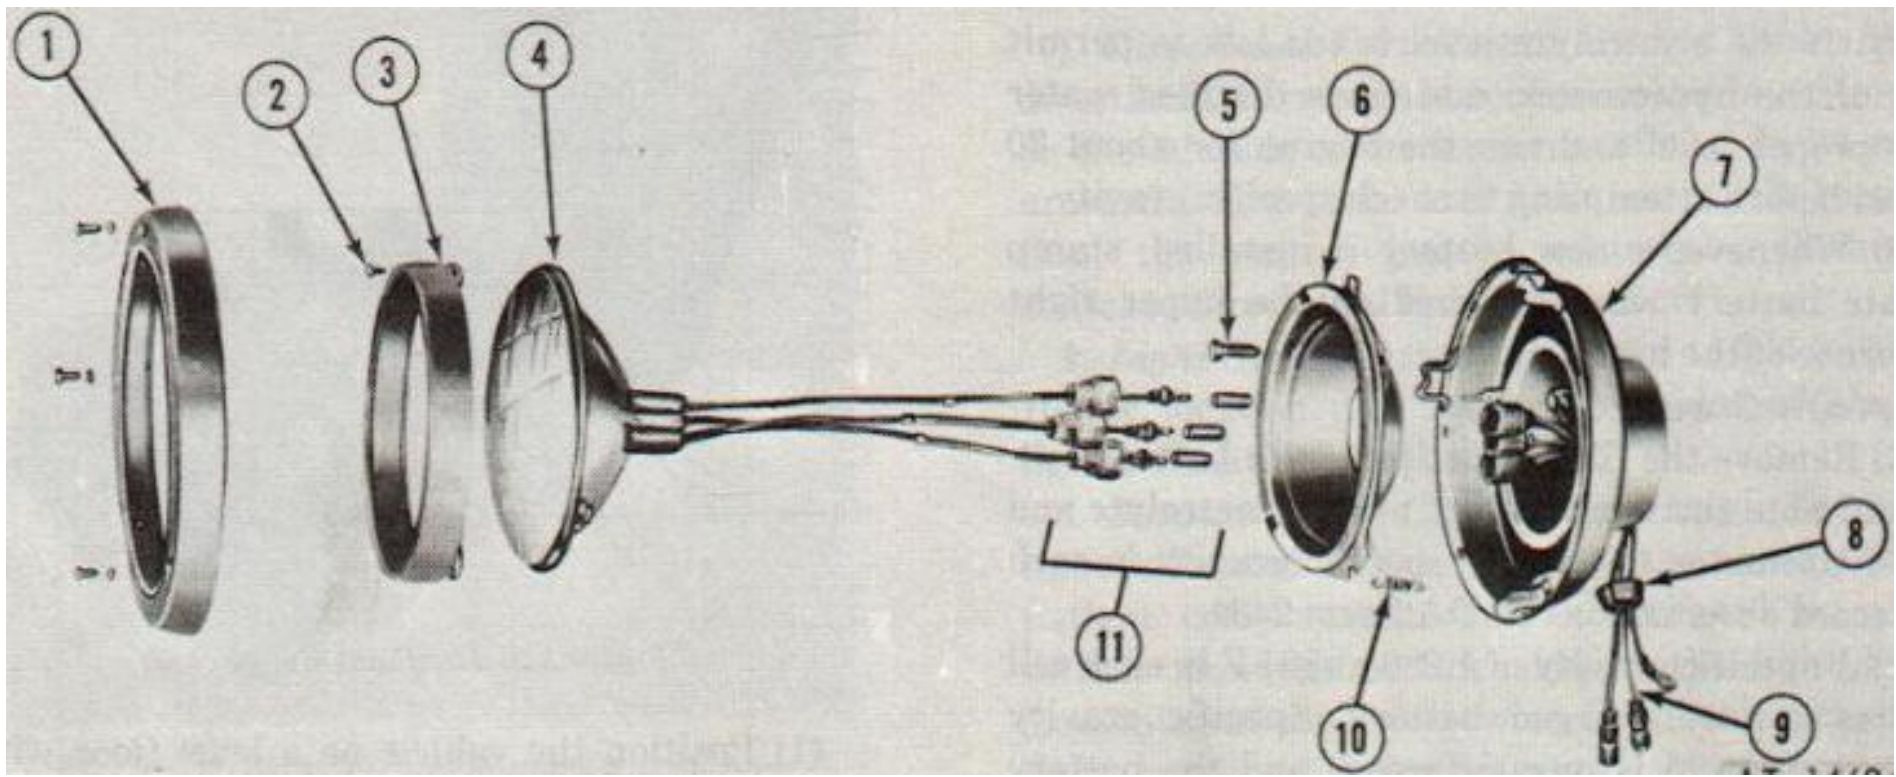
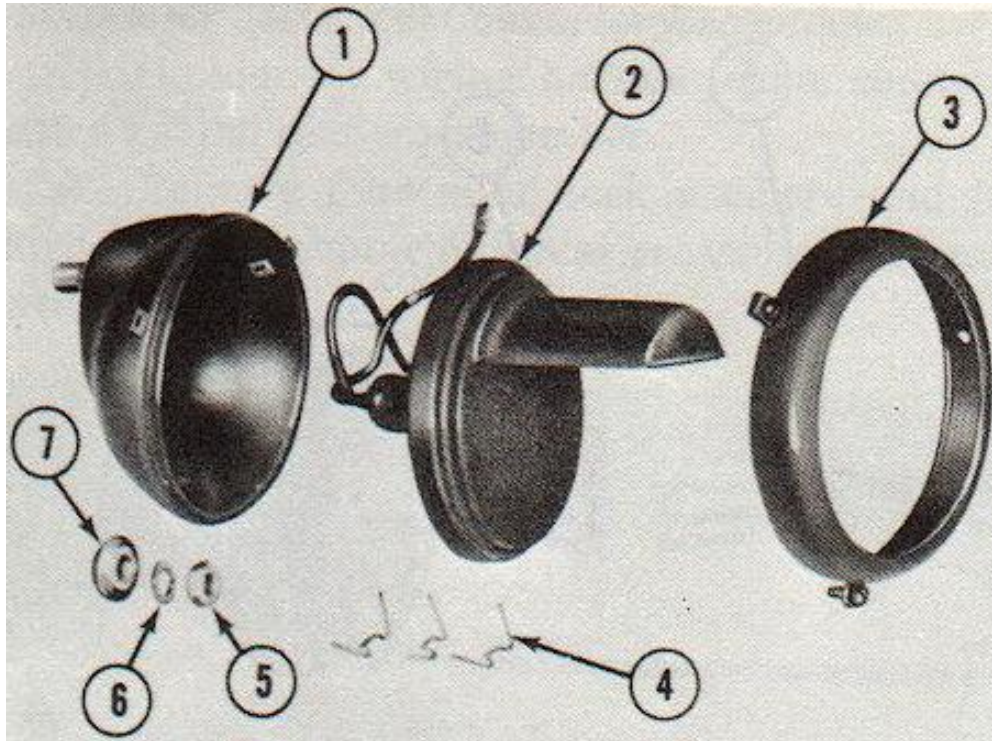

Figure 2-41. Head Lamp — exploded view.
Figure 2-42. Blackout driving light exploded view.
- (1) Remove batteries as outlined in paragraph above.
- (2) Remove six bolts and lock washers which secure battery tray to floor panel and remove battery tray.
c. Service Headlight Sealed Beam Unit. (Fig 2-41)
- (1) Remove three headlamp door retaining screws and remove door.
- (2) Disengage spring from sealed beam retaining ring.
d. Service Headlight Housing. (Fig 2-41)
- (1) Remove sealed beam unit as outlined in (c) above.
- (2) Disconnect three wiring harness cable connectors at rear of housing.
- (3) Remove three nuts and washers which secure housing to front end sheet metal and remove service headlight housing assembly.
e. Blackout Driving Lamp Sealed-Beam Unit. (Fig 2-42)
- (1) Remove the three screws securing door to light body.
- (2) Pull door and sealed-beam lamp assembly forward and remove waterproof connectors from connector clips.
- (3) Disconnect waterproof connectors.
- (4) Remove the lamp unit retaining springs and remove lamp unit from door.
f. Blackout Driving Light Housing. (Fig 2-42)
- (1) Disconnect electrical connector at rear of housing.
- (2) Remove nut, lock washers and centering washer which secure housing to mounting bracket.
- (3) Remove four hex socket bolts which secure lamp housing bracket to sheet metal.
- (4) Remove light housing and bracket.